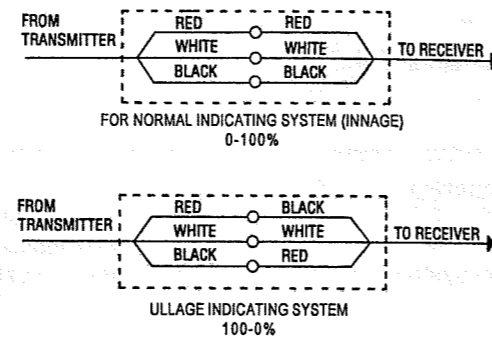

Fig. 5. Connection of cabling to receiver in J-box at tank transmitter. Do not use green wire.
Connect cabling at J-Box between transmitter and receiver for individual tank system as in Fig. 5 for either normal or interface indication, as required. If secondary (slave) meter is to be used, remove jumper from terminals 4 and 5 before connecting meter. Jumper must be in place between terminals 4 and 5 if a slave meter is not used.
1. Make sure meter travel has been reversed electrically by reversing red and black wire connections between receiver and transmitter (Fig. 5) or, if Zener Barrier is used, by reversing connections at terminals 4 and 5 of Barrier. **DO NOT** reverse connections at terminals 1 and 2 of Barrier.